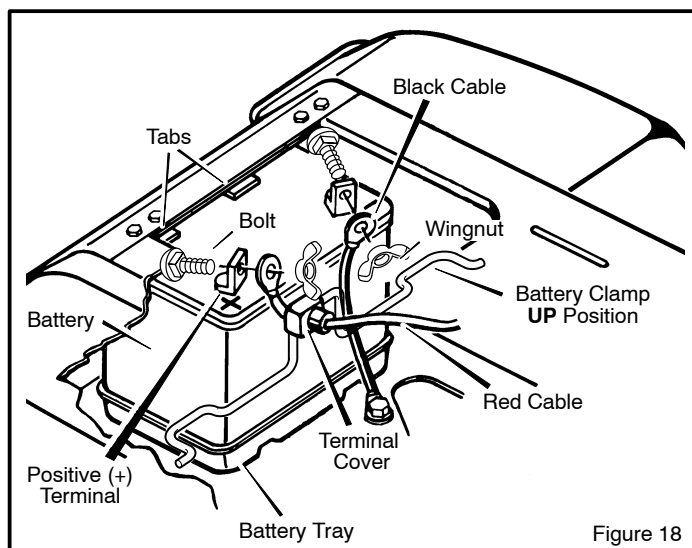

Figure 18
1. Remove the **black cable** from the negative (–) terminal (Figure 18).